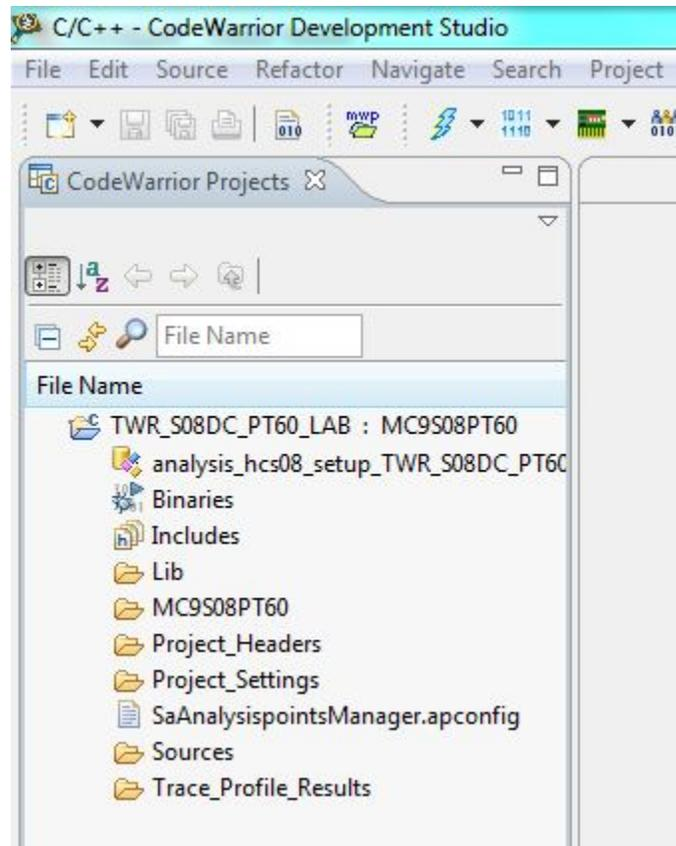

Figure 4. Project structure
5. The CodeWarrior Projects window is supposed to display the project structure as the example shown in Figure 4.